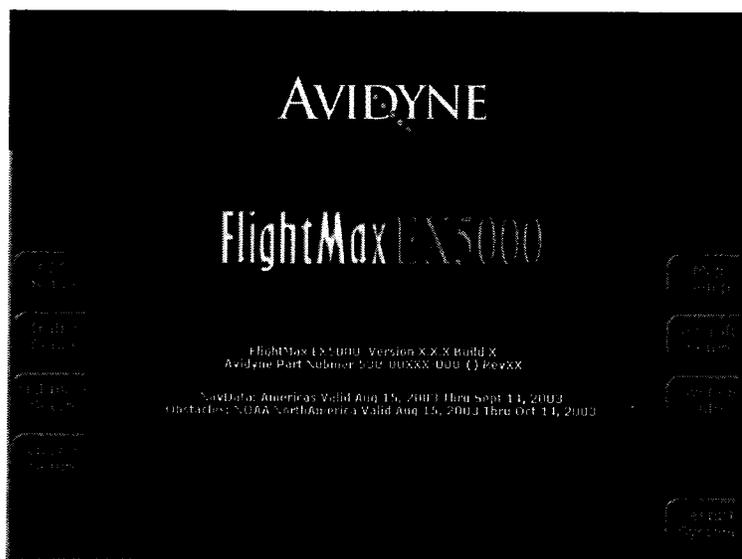

Figure 5. Maintenance Mode Page
5. Simultaneously press and hold the top left (L1), and 3rd down from the top left (L3), Line Select keys for at least 5 seconds (See Figure 5).
1. A blue background "Maintenance Page" will appear Figure 5.